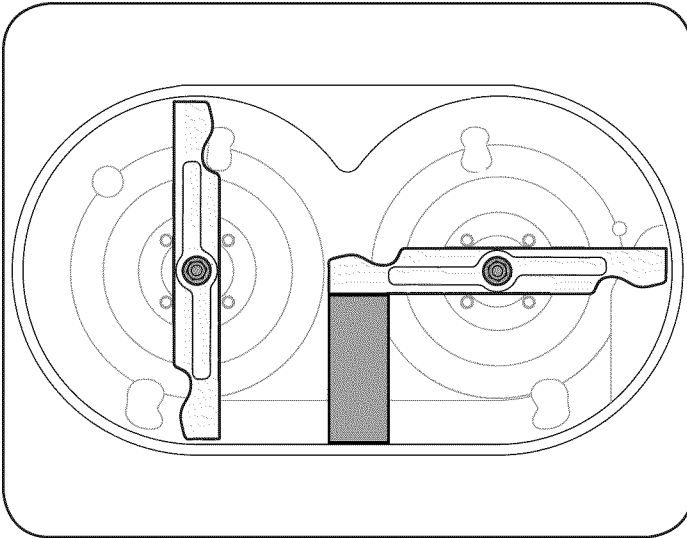

Figure 27
2. Place a block of wood between the center deck housing baffle and the cutting blade to act as a stabilizer. See Figure 27.
3. Remove the hex flange nut that secures the blade to the spindle assembly. See Figure 27.